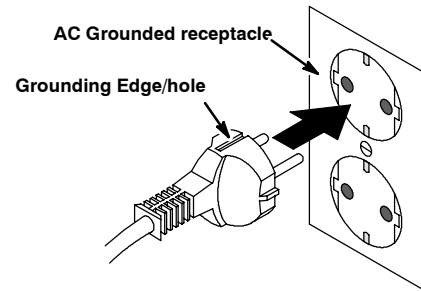

FIG. 35
- Connect the charger's AC power supply cord to a properly grounded receptacle (Figure 35).